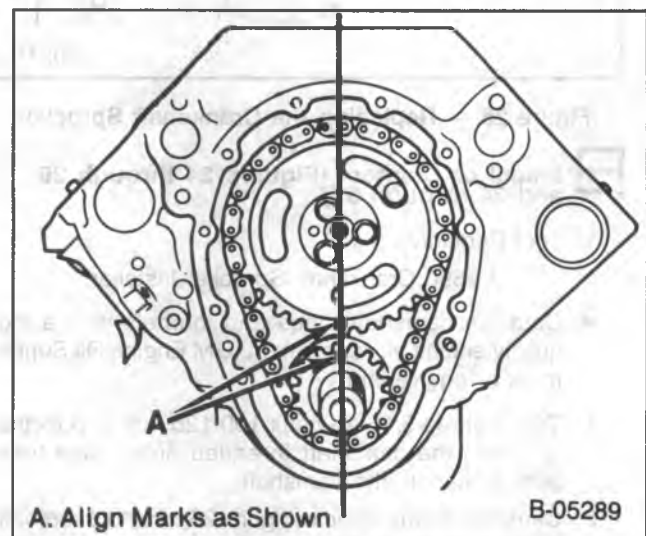

Figure 24 — Timing Marks
↔ Remove or Disconnect (Figures 24, 25, and 26)
- Align the timing marks (Figure 24).
Install or Connect (Figures 24 through 26 and 34 through 37)
- Line up the timing marks on the camshaft sprocket and crankshaft sprocket (figure 24).